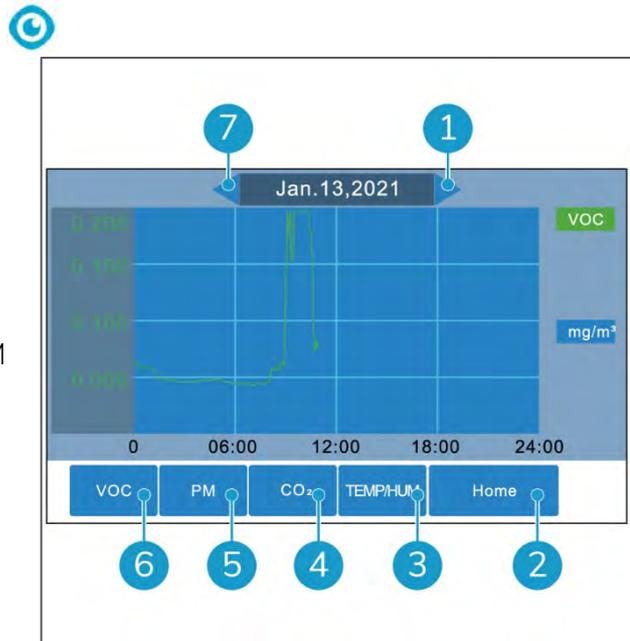

Figure 19
2. The history overview opens (Figure 19).
4. Use the previous button (Figure 19, pos 7) and next button (Figure 19, pos 1) to check the readings of the past days. You can go back up to 5 days.
5. Use the TEMP/HUM button (Figure 19, pos 3), CO₂ button (Figure 19, pos 4), PM button (Figure 19, pos 5) and VOC button (Figure 19, pos 6) to switch between
6. Touch the home button (Figure 19, pos 2) to go back to the main screen.